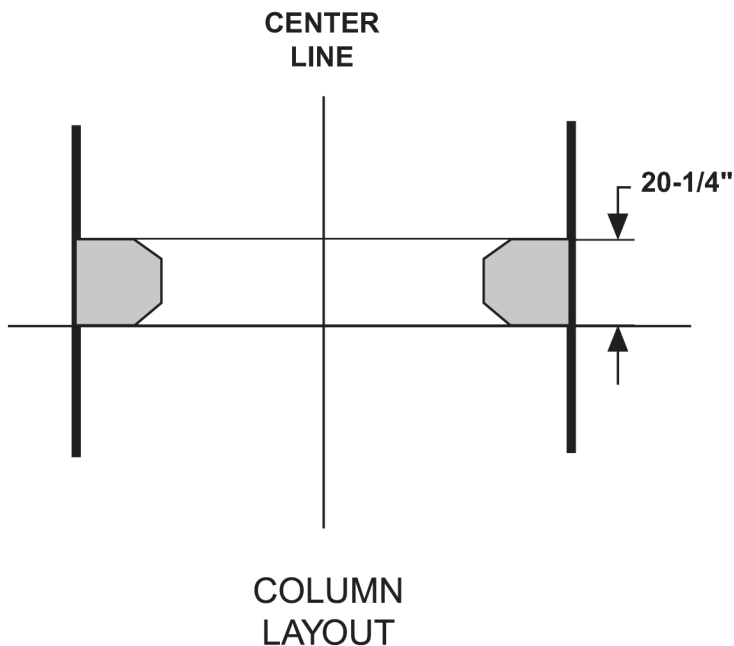

FIGURE 6
Position the columns as shown in Figure 6. Using a four foot level, $\frac{3}{4}$ " flat washers and shims provided, shim the columns level, front-to-back and side-to-side.
Step 6: Position the columns as shown in Fig. 6.